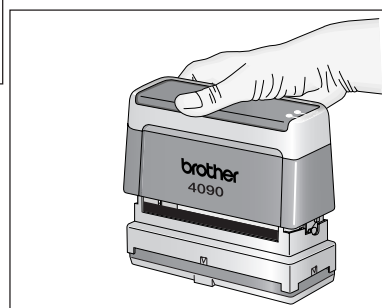

figure 10
- 5 Lay the assembled pad on a flat surface. Place the grip or holder over the skirt and push it down firmly. This action will break the ink container inside the stamp (see figure 10).